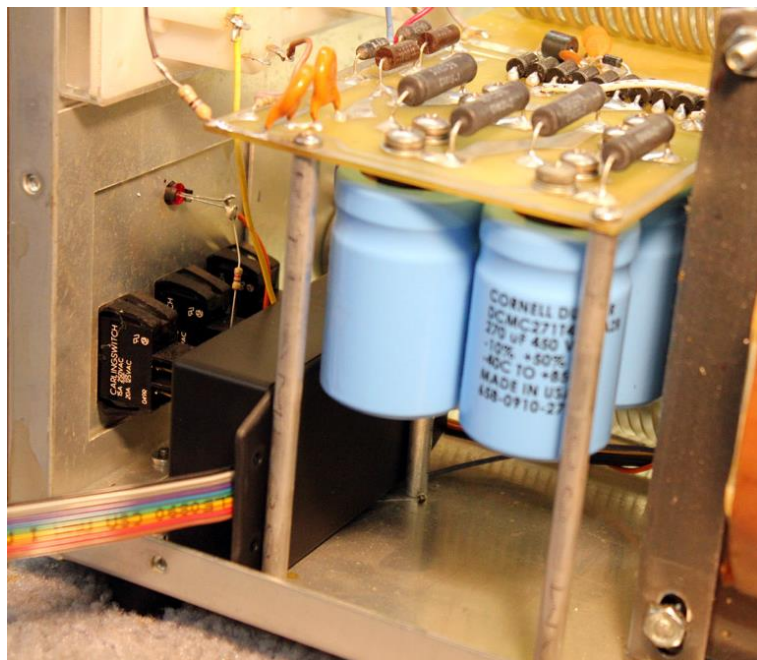

Figure 5 Vertical TOF mounting if filter capacitors are too tall (very early units)
6.) Install the TOF as shown in figure 5 or 6